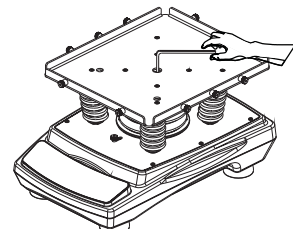

Figure 2
4. Hold the tray with one hand and unscrew the inner hexagon screw at the center of the tray with the angle adjustment wrench to adjust the angle of the tray with the other hand, as shown in figure 2.